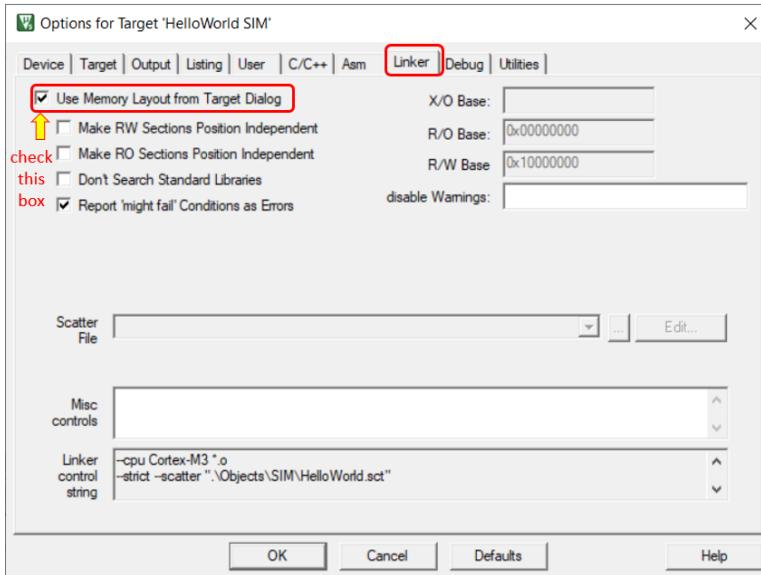

Figure 9.14: Keil IDE: Target Options Linker Tab Configuration
- Configure the Linker tab as shown in Figure 9.14. This is to instruct the linker to use the memory layout from the Target tab rather than default memory layout.